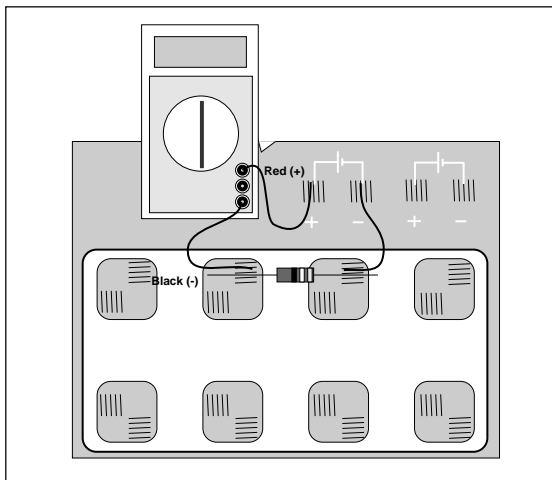
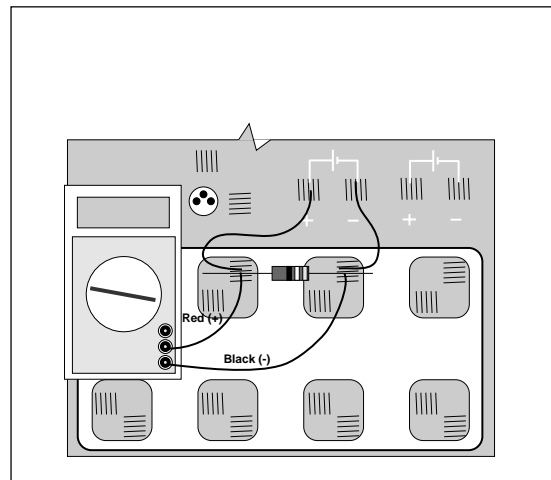

Figure 3.1a
Figure 3.1b
- ② **MEASURING CURRENT:** Construct the circuit shown in Figure 3.1a by pressing the leads of the resistor into two of the springs in the Experimental Section on the Circuits Experiment Board.
- ③ Set the Multimeter to the 200 mA range, noting any special connections needed for measuring current. Connect the circuit and read the current that is flowing through the resistor. Record this value in the second column of Table 3.1.
- ④ Remove the resistor and choose another. Record its resistance value in Table 3.1 then measure and record the current as in steps 2 and 3. Continue this process until you have completed all of the resistors you have been given. As you have more than one resistor with the same value, keep them in order as you will use them again in the next steps.
- ⑤ **MEASURING VOLTAGE:** Disconnect the Multimeter and connect a wire from the positive lead (spring) of the battery directly to the first resistor you used as shown in Figure 3.1b. Change the Multimeter to the 2 VDC scale and connect the leads as shown also in Figure 3.1b. Measure the voltage across the resistor and record it in Table 3.1.
- ⑥ Remove the resistor and choose the next one you used. Record its voltage in Table 3.1 as in step 5. Continue this process until you have completed all of the resistors.